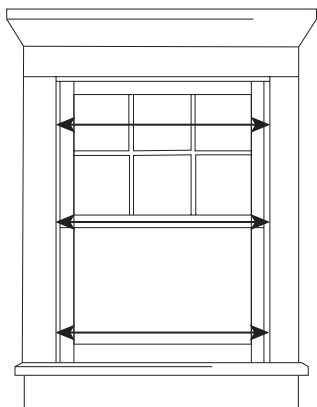

Figure 3
- Step 1. Measure your windows width at three locations (see figure 3) between the inside edge of the exterior side casings, subtract 1/8" from the longest dimension. Record this dimension at **A**(width) on the Measuring Form.